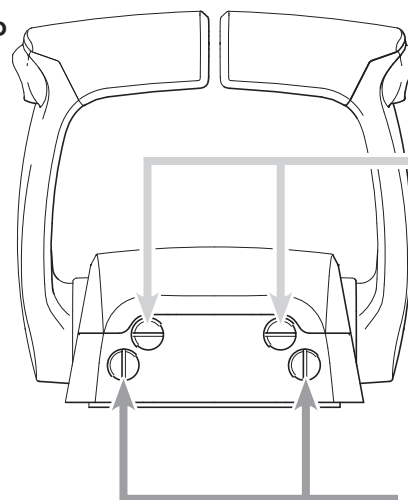
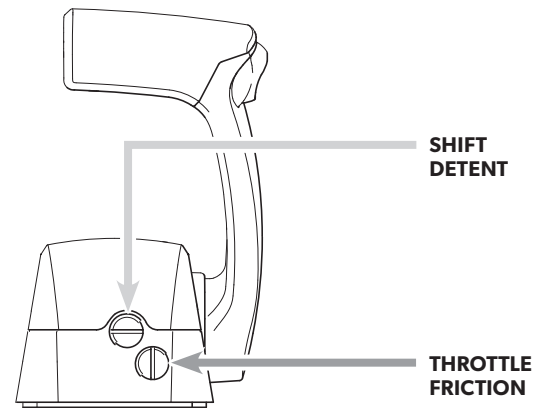

Figure 15-5.
Figure 15-8.
- The friction drag on the lever is adjusted with the throttle friction adjuster screw (see figure 15-5 or figure 15-8). Turn the screw clockwise to increase the friction on the lever, counter-clockwise to reduce the friction.